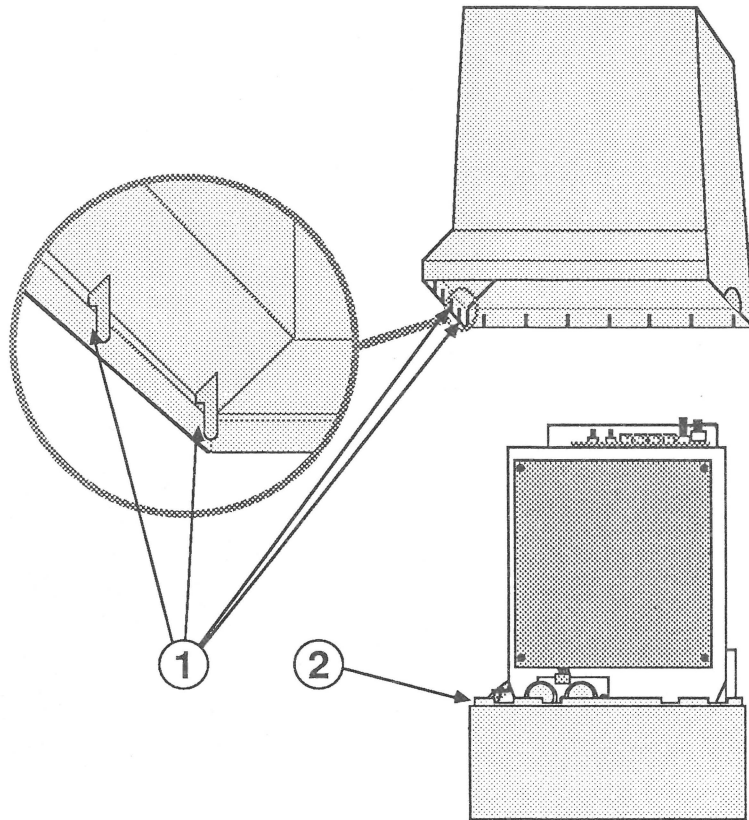

FIGURE 2
2. Slide the cover over the monitor chassis. Fit the "teeth" on the cover (Figure 2, #1) over the edges of the front bezel (Figure 2, #2).